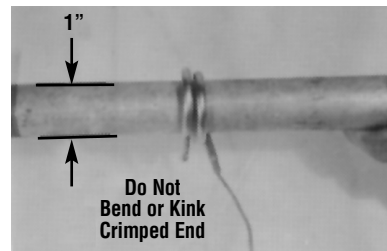

Figure 4
B. Do not kink capillary tube. The resulting constrictions in fluid flow can destroy control function or broaden temperature differential. Minimum capillary tube bending diameter is 1/2" I.D. (See Figure 4.)